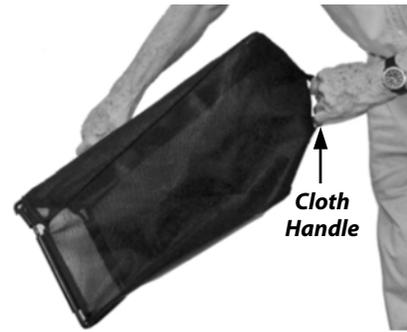

Figure 18
2. To empty the Bagger, tilt the Top Handle forward. Use the Cloth Handle (**Figure 18**) at the rear of the Bagger to move the contents toward the front as you empty the Bagger.